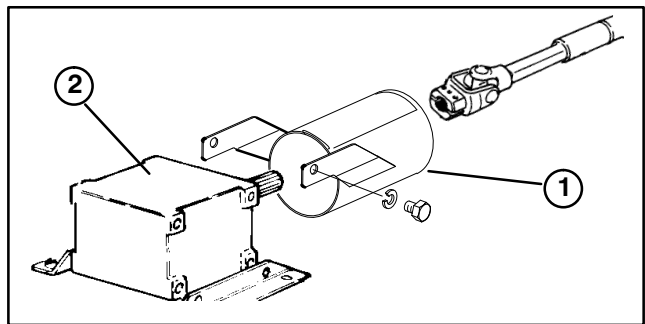

Figure 6
MOUNT PTO SHAFT GUARD AND CONNECT PTO SHAFT TO CUTTING UNIT GEAR BOX (Model 30551 TE Only) (Fig. 6)
1. Remove (2) capscrews and lockwashers securing PTO guard mounting brackets to gearbox (Fig. 6) . Retain fasteners for re-installation.
2. Slide PTO shaft guard onto PTO shaft, positioning guard as shown in figure 6.